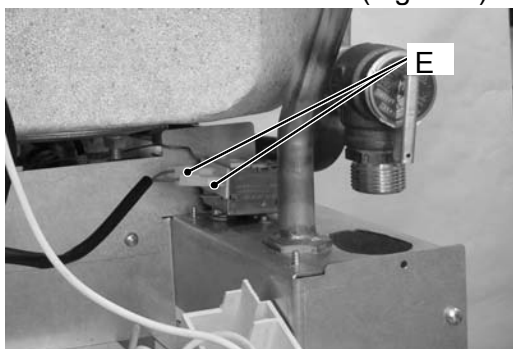

Figure 4
- 4) Disconnect the connectors E (Figure 4).